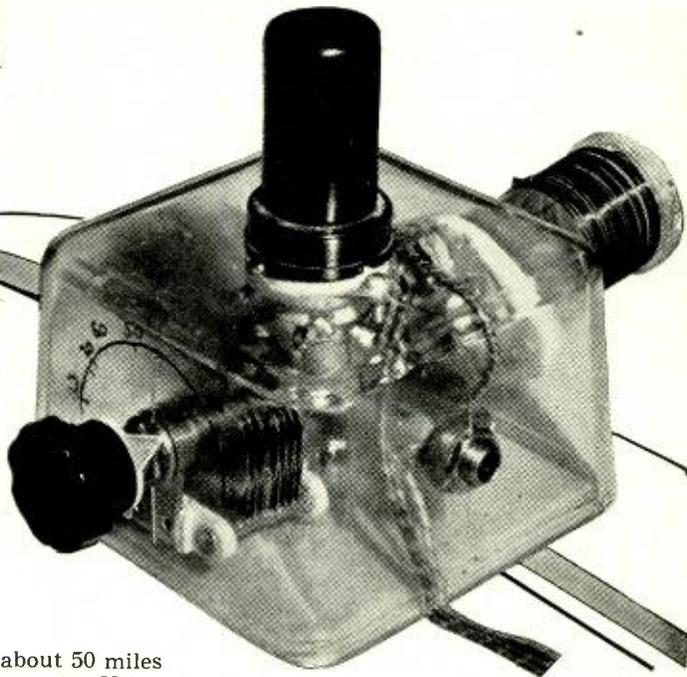

Fig. 1. Close-up view of the test oscillator used to adjust antenna to resonance.
Fig. 1. (A) Diagram of simple relay group. Control sequence may be varied by adjusting resistance in series with relay or changing relay spring tension. (B) A modified bridge setup. Any relay in the series may be opened by applying a voltage equal to that developed across relay.
Fig. 1 shows a close-up of the "Bloopers," as I call it. This little rig